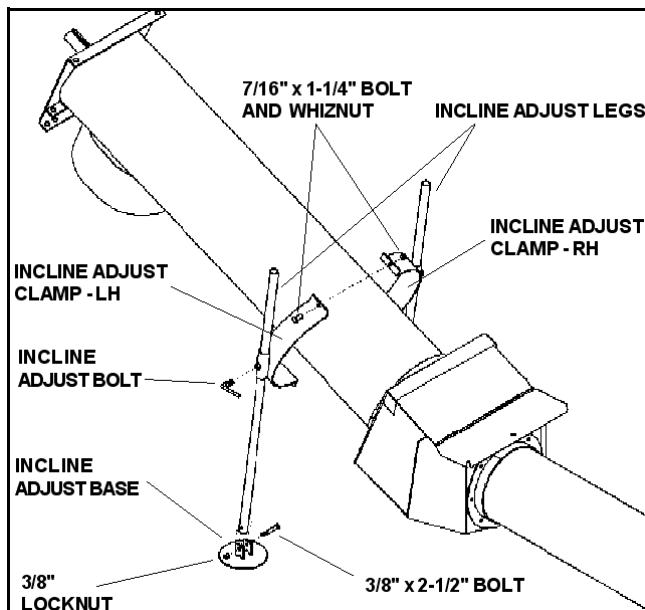

Figure 4.26
11. Install incline adjust clamps onto tube as shown in Figure 4.26. Using two 7/16" x 1-1/4" bolts and whiznuts, tighten clamps approximately halfway up the tube.
12. Insert incline adjust legs into clamps as shown in Figure 4.26. Attach incline adjust base to incline adjust leg using a 3/8" x 2-1/2" bolt and locknut. Repeat for opposite side.